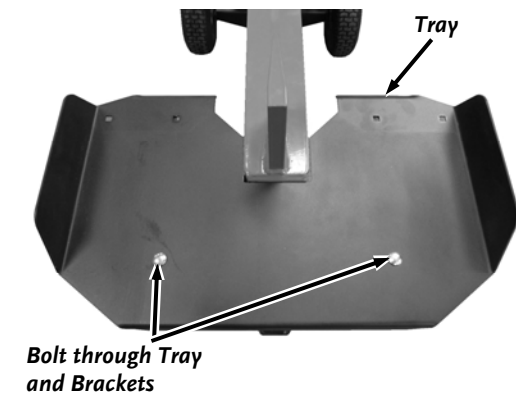

Figure 5
4. Position the Tray onto the Support Brackets and secure the front of the Tray to the Brackets with four 3/8-16 X 1.25" Flange Bolts and 3/8-16 Flanged Locknuts by hand but do not tighten (**Figure 5**).